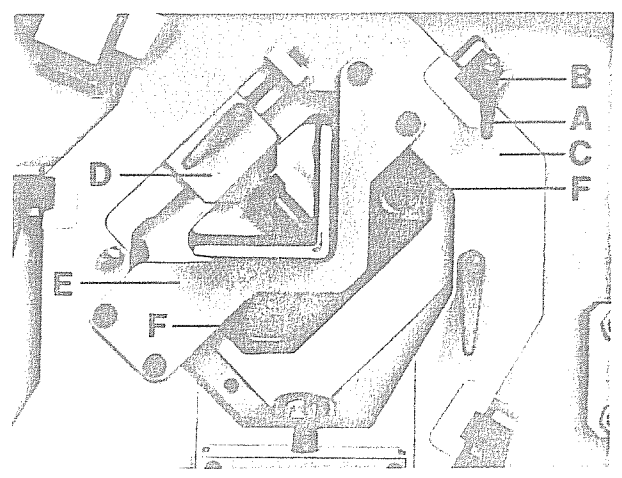

Fig. 47: Hold-down KBLH 500/700, design for blades for angles
- b) KBLH 500 and 700: Loosen clamping lever "A", push supporting brackets "B" outwards, and tighten. Swivel hold-down plate "C" to the front (Cf. fig. 47).
When using the combined blade for angles, round and square steel sections, push the appertaining pressure piece "D" onto the hold-down plate, and screw the hold-down rail "E" by the pressure screws "F" for round and square sections to the hold-down plate (See fig. 47).